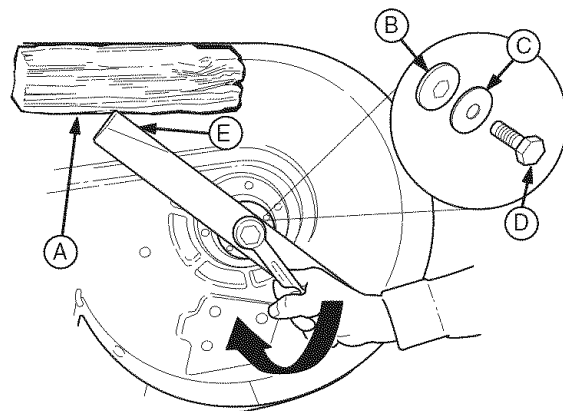

Figure 22. Blade Installation
3. Remove the capscrew (D, Figure 22), spring washer (C), hex washer (B), and blade.
7. Reinstall the blade with the lift wings (E, Figure 22) pointing up toward the mower deck as shown.
8. Reinstall the hex washer (B, Figure 22), spring washer (C) and capscrew (D). Use a wooden block (A) to prevent blade rotation while tightening the capscrew (D) to 45-55 ft. lbs. (61-75 N.m). Turn capscrew clockwise to tighten.